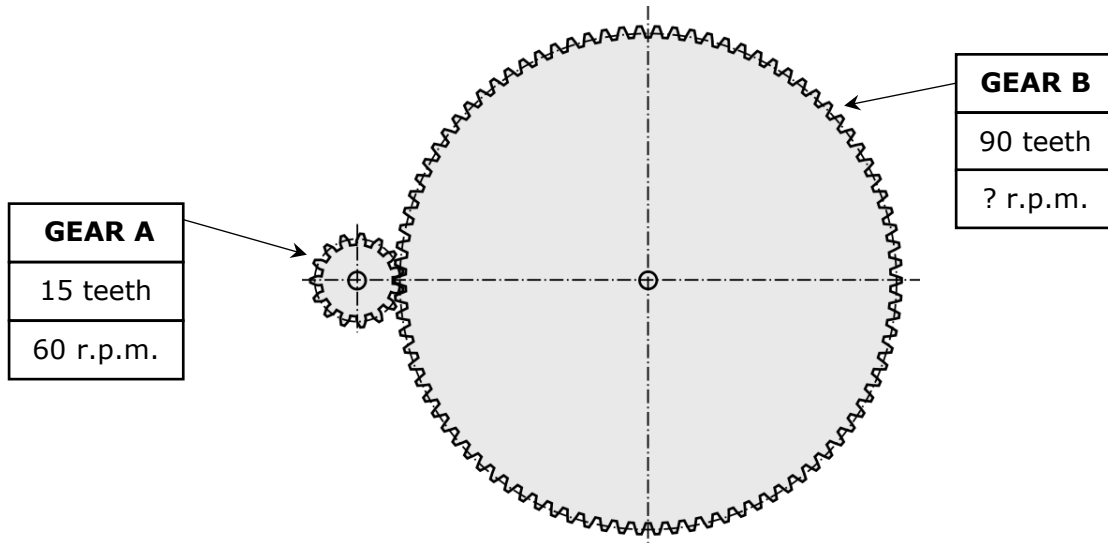

Figure 5
17. A rotating display was constructed for a jewellery shop window. The system of the rotating display consists of an input motor which drives a gearing system to slow down the output rotating speed. Figure 5 shows part of this gearing system.
a. Name the type of gear train shown in Figure 5.
b. On Figure 5, identify and label the driver gear which should be connected to the motor to make the output gear go slower. (1)
c. Using the information provided in Figure 5, calculate the rotating speed of Gear B.
- d. The mechanical system in Figure 5 needs to be modified so that Gear B rotates in the same direction of Gear A with the output speed remaining unchanged.